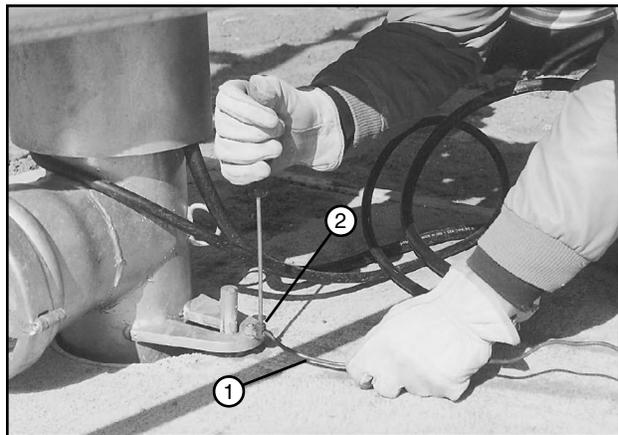

Figure 48-3 1. Ground Wire
7. Disconnect the ground wire from the ground lug on the lower riser ear. After removing ground wire, retighten the grounding lug screw so it is not lost while towing. See Figure 48-3.